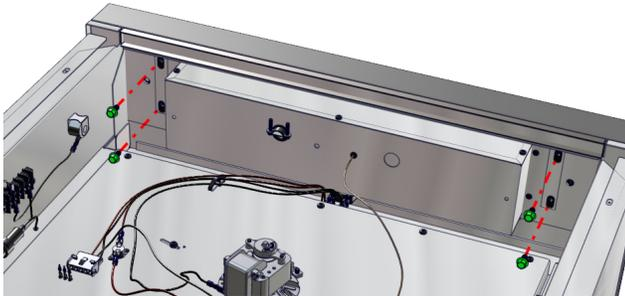

Fig. 2: Remove 4 Header bolts
4. Remove the 4 bolts (Fig. 2 - shown in green) that secure the header to the cabinet.